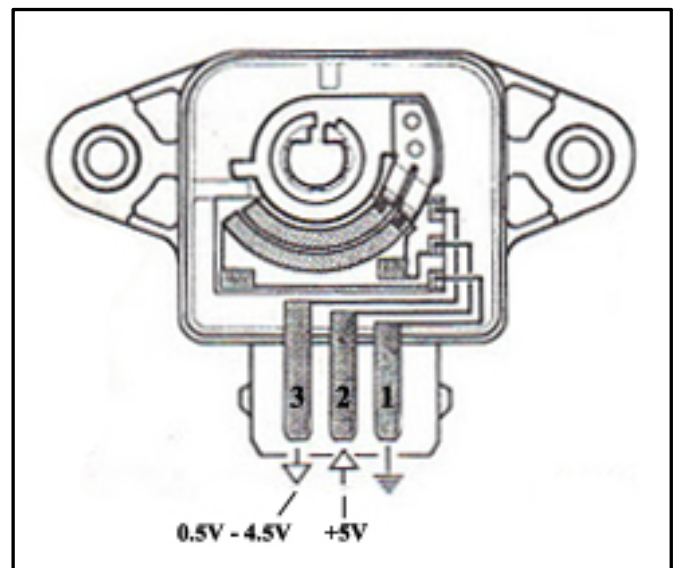

Figure 1.2: TPS Pinout
Route the needed wires from the DB37 through the firewall. Leads from the DB37 should be routed around the engine bay and sheathed for protection. Sensor wiring is described in the following list. Refer to figure 1.2 for TPS wiring pinout. A tutorial on setting up the DSM CAS with the high-resolution trigger disc can be found in the articles section on the Turbobricks forum.
- **Figure 1.2:** Bentley Publishing Company, Volvo 240 Service Manual. Page 241-20.